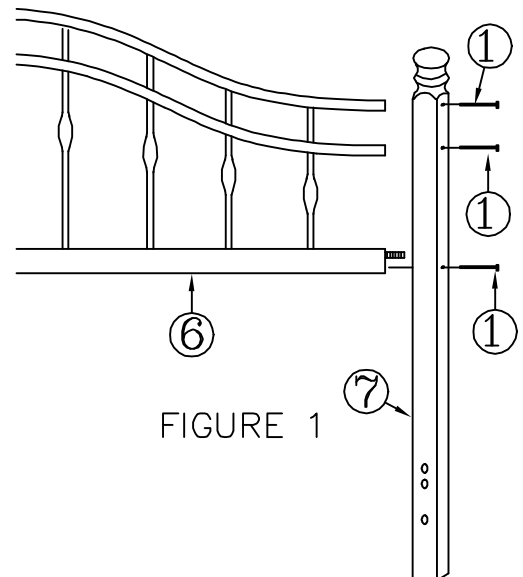

FIGURE 1
Align holes in post (6) with holes in grill (5). Now insert screws (1) thru holes in post into threaded hole in rails. Do the same with other headboard post assembly. Follow same instructions for footboard assembly. See Figure 1
See Figure 1